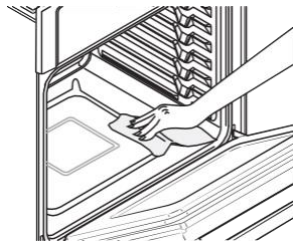

Fig. 1
- Wipe up debris from the oven bottom.(Fig. 1)